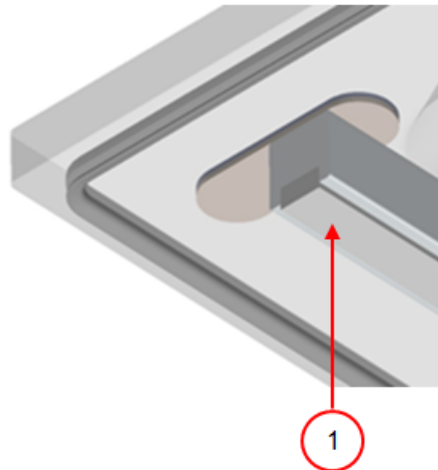

Figure 21: Replacing the Silicone Rubber of the Silicone Holders
1. Pull the old silicone rubber from the holder, see *Figure 21: Replacing the Silicone Rubber of the Silicone Holders* on page 54.